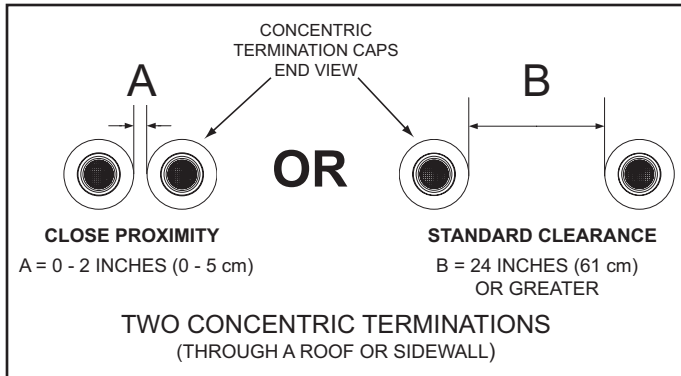
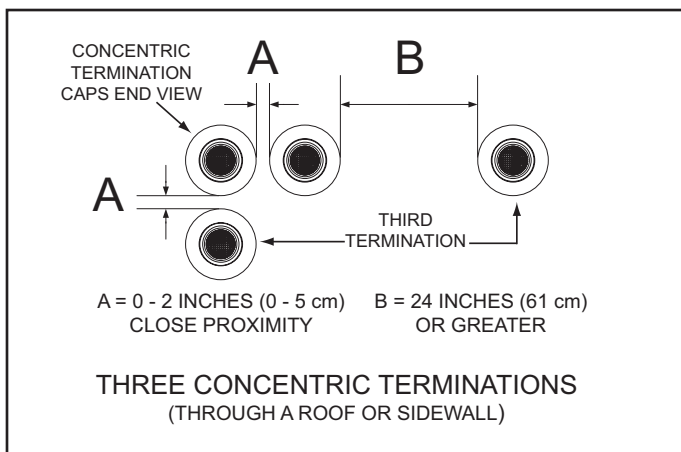
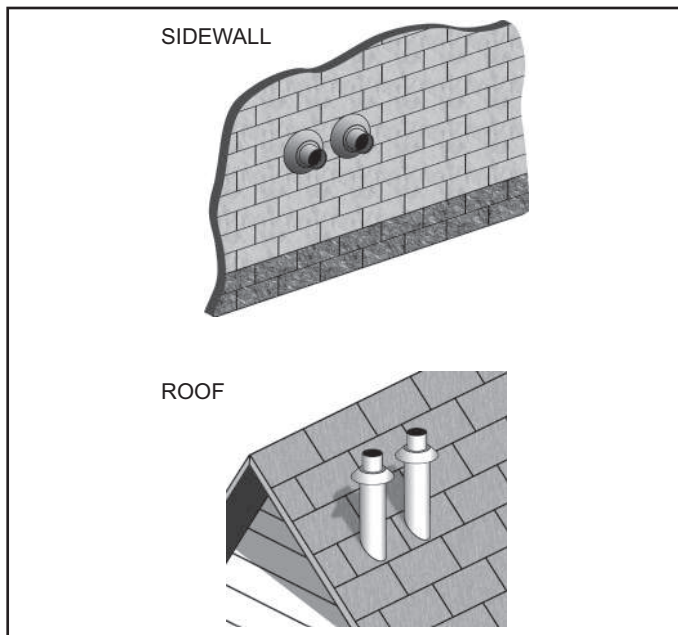

Figure 32
Figure 33
Figure 37
When installing multiple concentric terminations through a roof or through a sidewall the clearances shown in Figure 32 must be maintained.
1. The clearance between multiple termination caps must be 0 inches (touching) to a maximum of 2 inches (5 cm), dimension A - Figure 32, when installing concentric terminations in close proximity. See Figure 37 on page 33.
2. The clearance between multiple termination caps must be increased to a minimum of 24 inches (61 cm), dimension B - Figure 32, when installation in close proximity (above) is not possible. This is the standard clearance.
1. When installing three concentric terminations through a roof or through a sidewall the third termination may be installed in close proximity as indicated by dimension A in Figure 33.
2. If close proximity installation of the third termination is not possible the third termination may be installed as indicated by dimension B in Figure 33.
Two concentric terminations may be installed in close proximity as shown in Figure 37 or with standard clearances when this arrangement is not possible. See Figure 32 on page 32 for detailed information on clearances. See Figure 33 on page 32 when installing three concentric terminations.